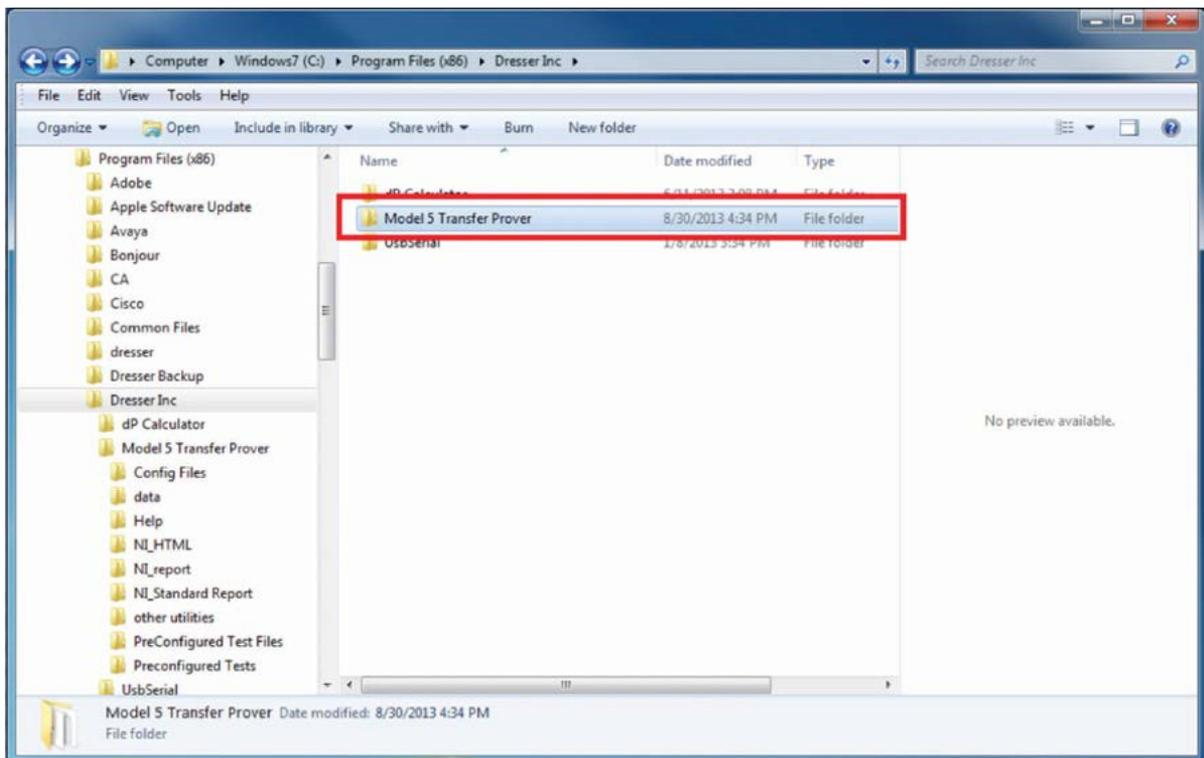

Figure 3: Find “Model 5 Transfer Prover”
3. Within “Dresser Inc”, select the folder entitled “Model 5 Transfer Prover” as shown in **Figure 3**.